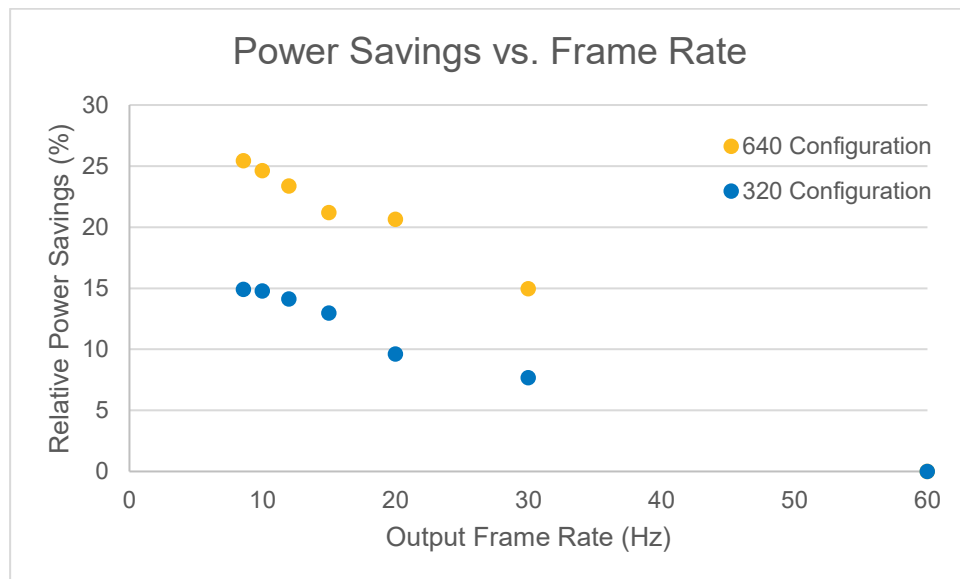

FIGURE 73: POWER SAVINGS AS A FUNCTION OF FRAME RATE
- Whether the frame skip function is enabled; disabled for measurements below (Figure 73)